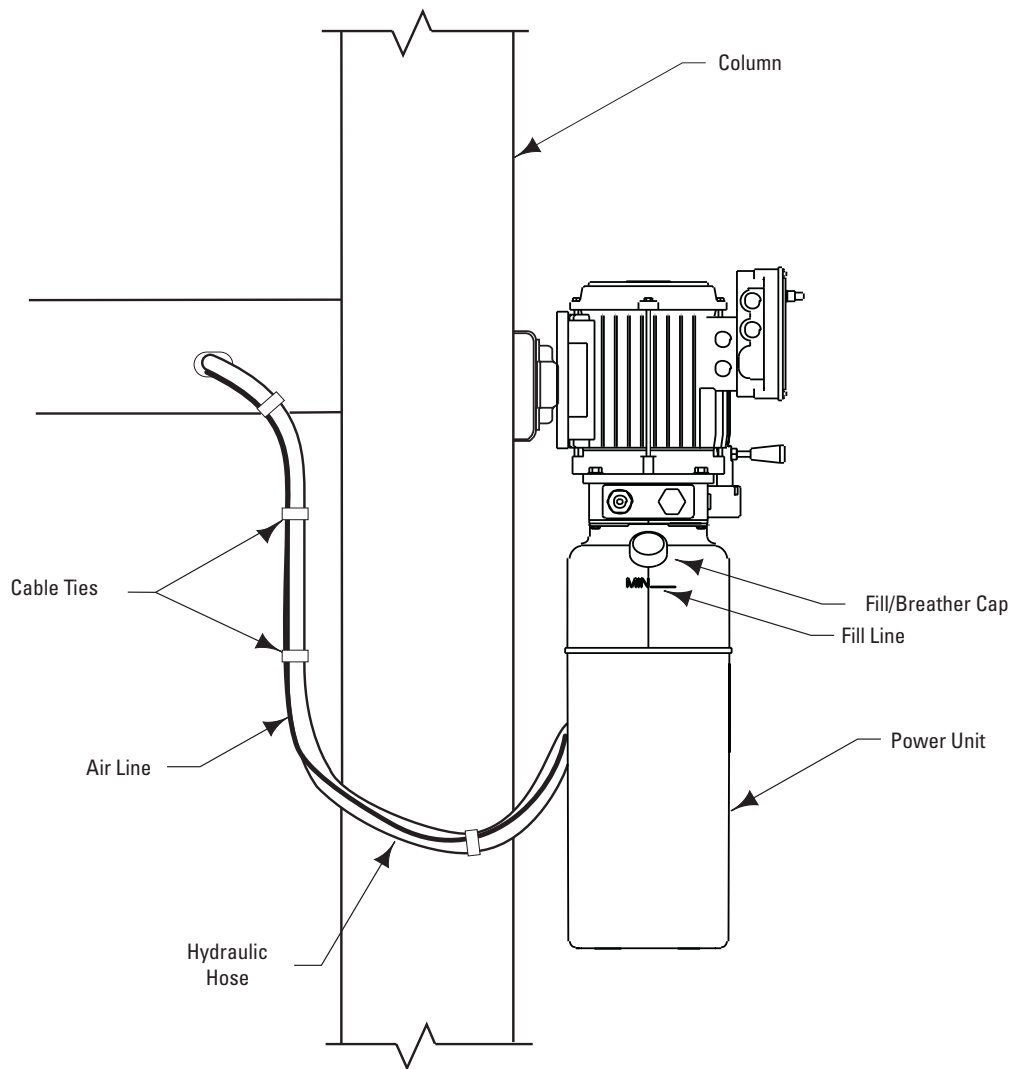

Fig. 19
B. Mount power unit, with motor up, to column bracket and install lock washers and nuts. Run hydraulic hose from runway through grommet in side of runway to power unit output port, Fig. 19. DO NOT use Teflon tape on hydraulic hose connections. Install and hand tighten elbow to pump until O-ring is seated and elbow should be oriented downward. Tighten locknut to 35-40 ft. lbs. Install enclosed Capacity label on power unit.
System capacity is thirteen (13) quarts. Use Dexron III ATF. Remove fill/breather, Fig. 19. Pour in hydraulic fluid until it reaches the **Fill Line**. Replace fill/breather. Start motor and raise lift to full rise. Lower onto latches.
Note: If fill/breather, Fig. 19, is lost or broken, order replacement.
To pressure test, run lift to full rise and run motor for approximately 5 seconds. Stop and check all fittings and hose connections. Tighten or reseal if required. Lower lift. If fill/breather, Fig. 19, is lost or broken, order replacement.